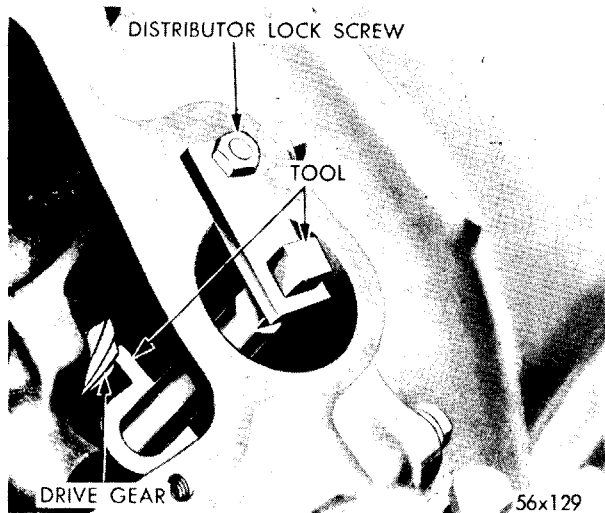

Fig. 7—Camshaft Holding Tool
When installing the timing chain, use Tool C-3509 to prevent the camshaft from contacting the welch plug in the rear of the engine block. Remove the distributor and the oil pump-distributor drive gear. Locate tool against rear side of cam gear and attach the tool with distributor retainer plate bolt (Fig. 7).
(1) Lubricate the cam lobes and bearing journals before inserting the camshaft.
(2) Install Tool C-3509 with tongue back of distributor drive gear (Fig. 7).
(3) Push camshaft into final position.
(4) Keep tool in place until sprockets and chain have been installed. Complete installation as described in Paragraph "Timing Chain and Sprockets."